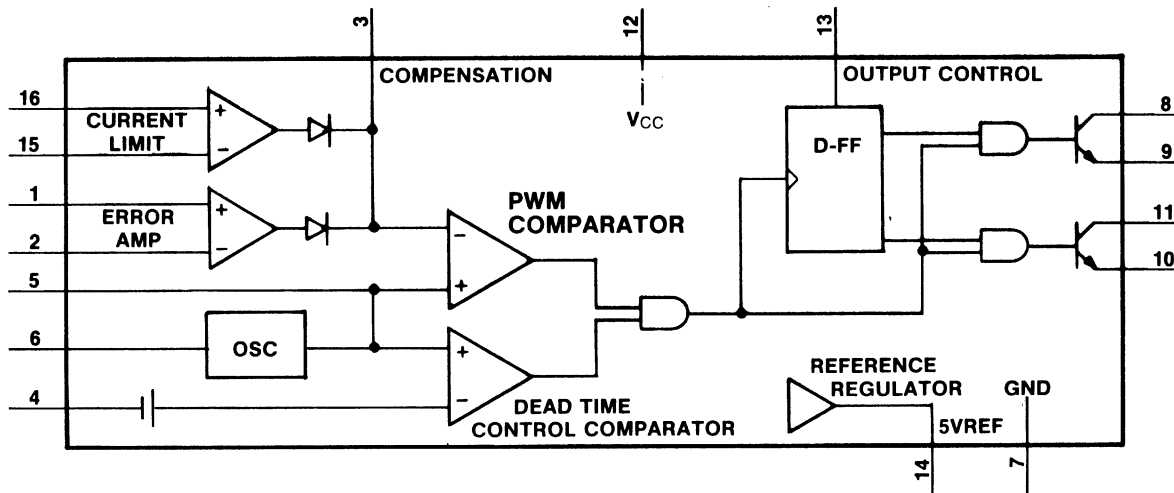

Figure 8A-2. Functional Block Diagram of a PWM
**8A-13. PWM OVERVIEW** (see Figure 8A-2). A pulse width modulator (PWM) requires four signals for proper modulation: a reference voltage, a feedback from the output to compare with the reference voltage for error detection, feedback current from the output for output current limiting, and a predetermined switching frequency.